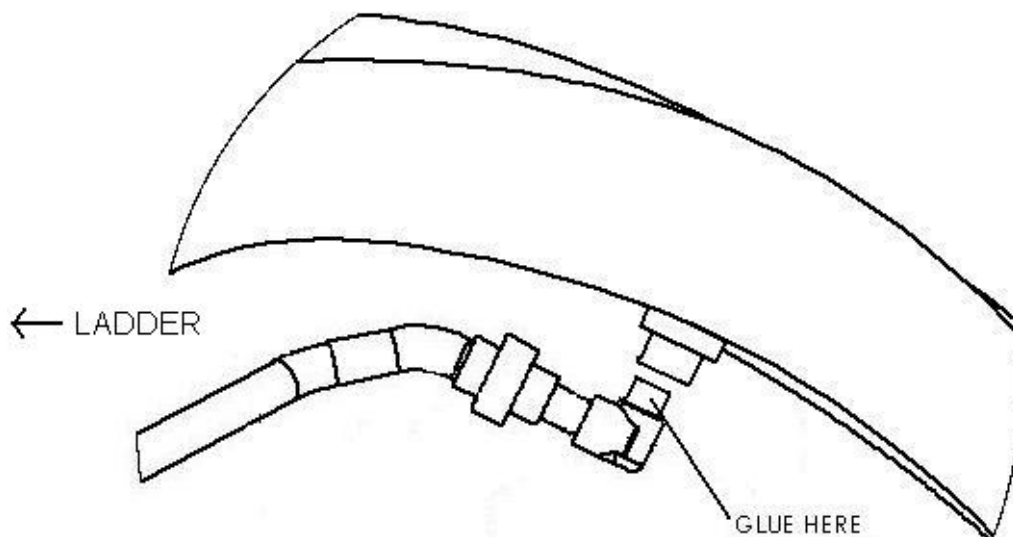

Figure 11
- 14) Apply PVC glue to the male slip end of the (#1) 90 degree elbow and insert the plumbing assembly from step 13 into the fitting in the bottom of the runway. It is important that the assembly be attached to the slide in the orientation shown in Figures 11 and 12, with the hose towards the ladder. sufficient time for the glue to cure before moving on to the next step.